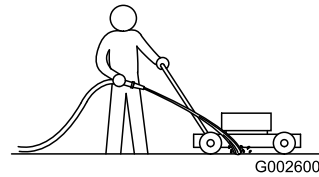

Figure 54
1. With the engine running on a flat paved surface, spray a stream of water in front of the right rear wheel (Figure 54).